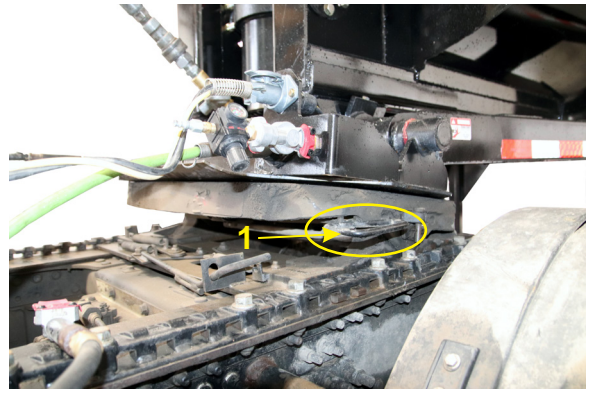

Figure 3-19 – Fifth Wheel Lock lever
- Check that the fifth wheel kingpin locking lever (1, Figure 3-19) is in the LOCK position. **NOTE:** Make sure that the safety catch is in position over the locking lever. On some fifth wheel systems, this safety catch needs to be positioned by hand.
2. Inspect all semitrailer lights to make sure they are working properly. Turn on the tractor lights and check the semitrailer front marker light (3, Figure 3-21), side marker light (2, Figure 3-21), rear marker light (1, Figure 3-21) and the rear marker lights (5, Figure 3-19). **NOTE:** Check both sides of the semitrailer for the marker lights. Turn on the 4-way flashers and have an assistant step on the tractor brake pedal to check the brake lights and turn signals (4, Figure 3-21).